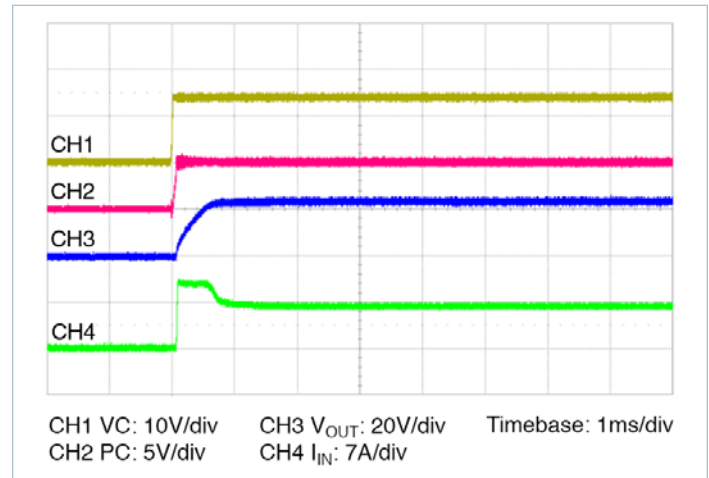

Figure 14 — Start up from application of V_C; V_{IN} pre-applied C_{OUT} = 375 μF
- **Stand-alone operation (VC applied after V_{IN}):** In this case the VTM output will begin to rise upon the application of the VC voltage (See Figure 14). The Adaptive Soft-Start Circuit may vary the output rate of rise in order to limit the inrush current to its maximum level. When starting into high capacitance or a short, the output current will be limited for a maximum of 1200μs. After this period, the Adaptive Soft-Start Circuit will time out and the VTM module may shut down. No restart will be attempted until VC is re-applied or PC is toggled. The maximum output capacitance is limited to 375μF in this mode of operation to ensure a successful start.